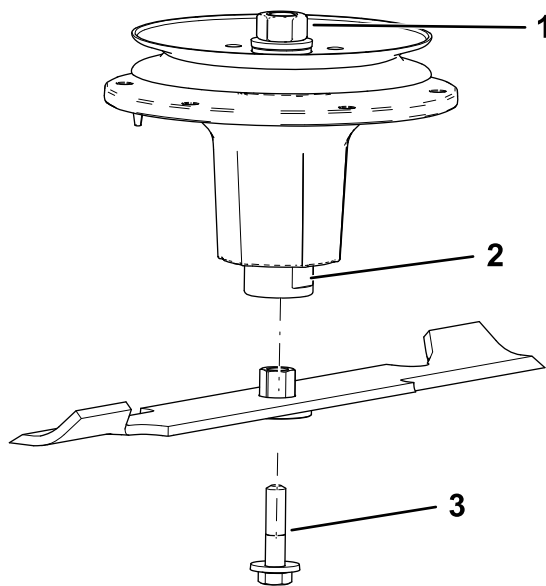

Figure 86
2. Install the bushing/blade assembly into the spindle shaft (Figure 86).